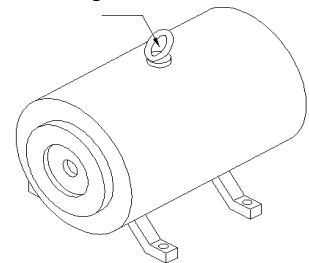

Figure 2-80
(6) Lifting description of the working motor as shown in Figure 2-80